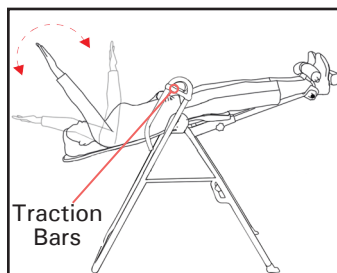

Figure 9
When correctly balanced, the inversion table will rotate in response to simple arm movements. To invert, lift your arms overhead slowly and to return upright, bring your arms back to your sides. Your arms provide the weight needed to rotate the table. (Figure 9).
- Adjust the front ankle clamps to make sure both the front and rear ankle clamps are snug against your ankles. Release the locking pin so that it fully engages a hole setting (Figure 9).